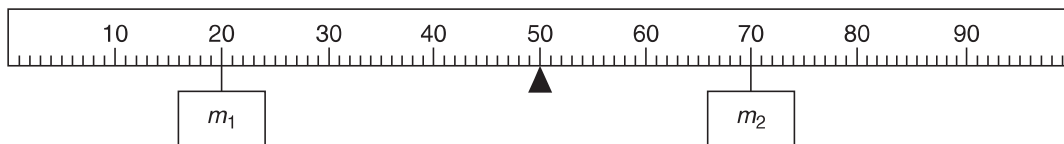

Figure 10-5 Meter stick with forces applied by hanging two masses m_1 and m_2 .
6. In Figure 10-5 if mass $m_1 = 0.100\text{ kg}$ acts at 20.0 cm , what is the value of mass m_2 that must be placed at the position 70.0 cm shown to put the system in equilibrium? Write the equation for $\sum \tau_{\text{ccw}} = \sum \tau_{\text{cw}}$ with the mass m_2 as unknown and solve for m_2 . Assume that the meter stick is uniform and symmetric. Show your work.